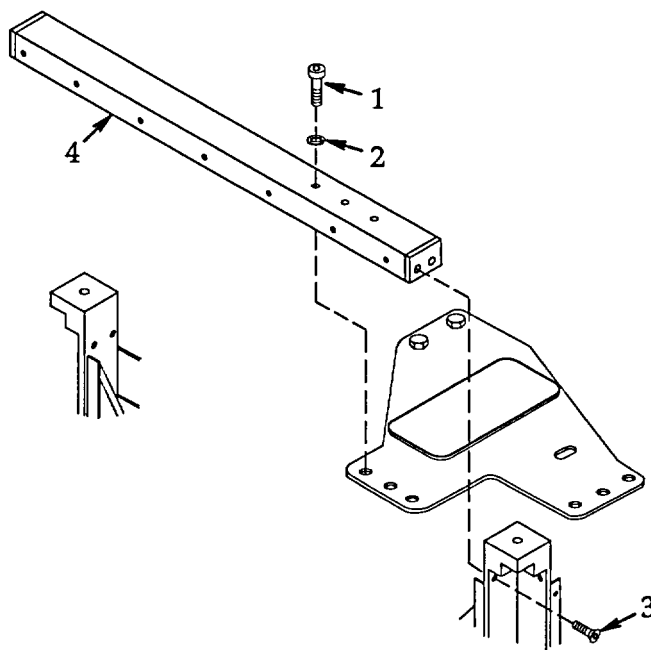

Figure 4-52. End Rail.
a. **Removal.** See figure 4-52.
b. **Installation.** See figure 4-52.
- (1) Install end rail (4) and align mounting holes. Secure with four screws (3).
- (2) Install three new lock washers (2) and screws (1).
- (3) Install end screen per paragraph 4.23.
- (4) Lower and secure cover per paragraph 4.2.
- (5) Connect FDECU to power source and operate per paragraph 2.4.